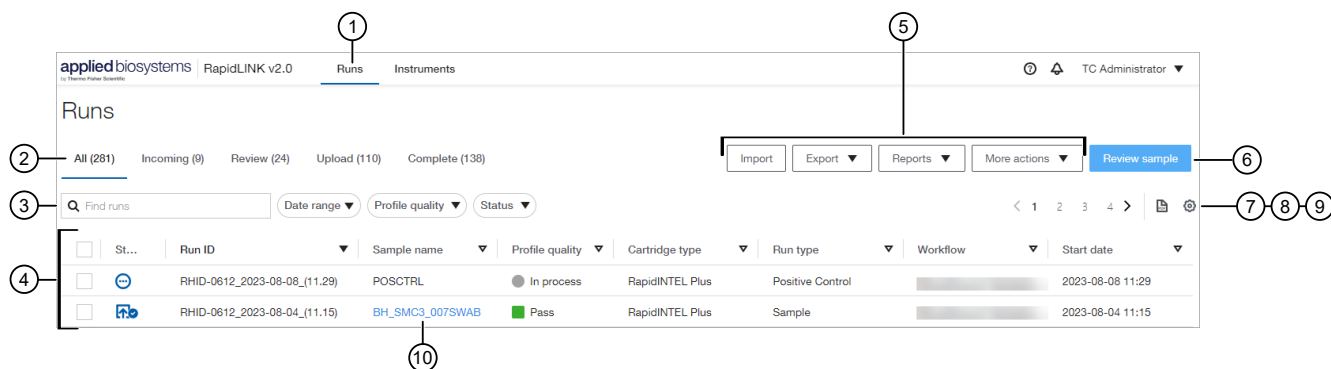

Figure 3 Runs dashboard
2. Depending on your user role permissions, you can use the dashboard tools to perform the functions shown in Figure 3.